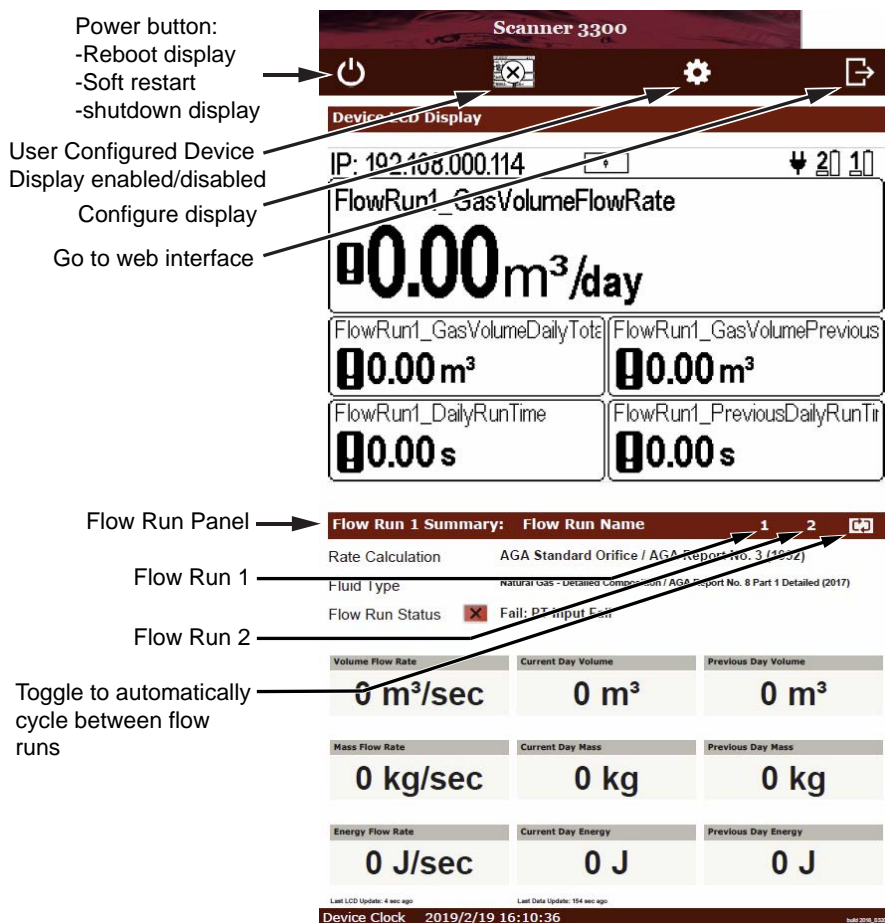
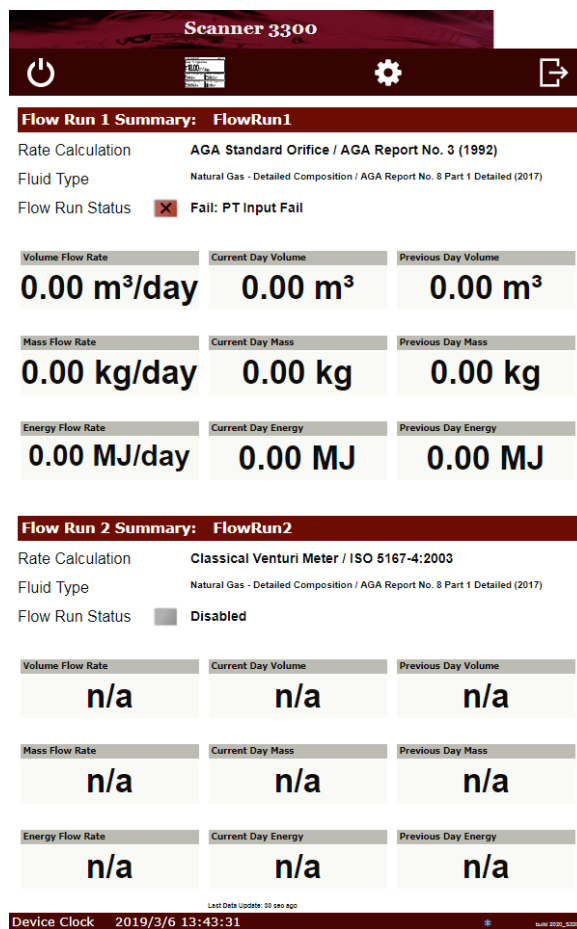

Figure 4.1 - Touch Display; User Configured Device Display enabled
Figure 4.2 - Touch Display; User Configured Device Display disabled
The QRATE Scanner 3300 touch screen display allows you to view the real-time measurements for up to 32 selected parameters, and gives access to the web interface to configure the device. If the User Configured Device Display is enabled, the parameters scroll continuously through the 5 fields provided. The screen may show Flow Run 1 Summary or Flow Run 2 Summary (Figure 4.1). Otherwise, the screen will simply show both summaries (Figure 4.2, page 62).
This button is used to enable or disable the user configured device display which shows selected real-time measurements as well as status information for the device. When enabled The kiosk display will show the user configured device display and will either show or cycle between Flow Run 1 and Flow Run 2 (as shown in Figure 4.1, page 61). If disabled, the display will show both flow runs at the same time (as shown in Figure 4.2).
When the user configured device display is enabled, a row of pictorial status indicators or “glyphs” appears in the top right corner of the user configured device display. You can use these glyphs to quickly assess the status of the touch display, wireless connectivity, and power connectivity once you become acquainted with the symbols and their meanings (Figure 4.2, page 62 and Table 4.1—User Configured Device Display Status Glyph Definitions).
When first connecting to the QRATE Scanner 3300 and a wireless connection has not been configured yet, you will have to connect through the Ethernet port to configure the wireless network or to further configure the Ethernet network. An IP address will be assigned to the device during this process, and you can access the web interface from the touch screen using the button seen in Figure 4.2, page 62 (left).
3. Use the button see in Figure 4.2, page 62 (left) to access the web interface.